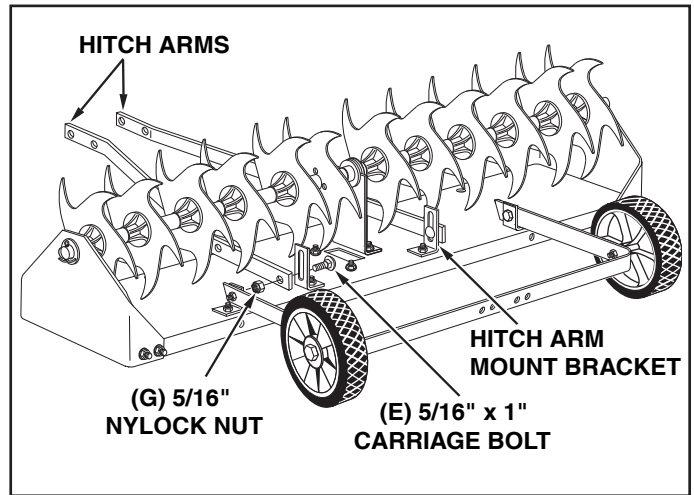

FIGURE 10 REAR VIEW
- Assemble the hitch arms to the **outside** of the hitch arm mount brackets. Use two 5/16" x 1" carriage bolts (E) and 5/16" nylock nuts (G). **Do not tighten yet**. See figure 10.